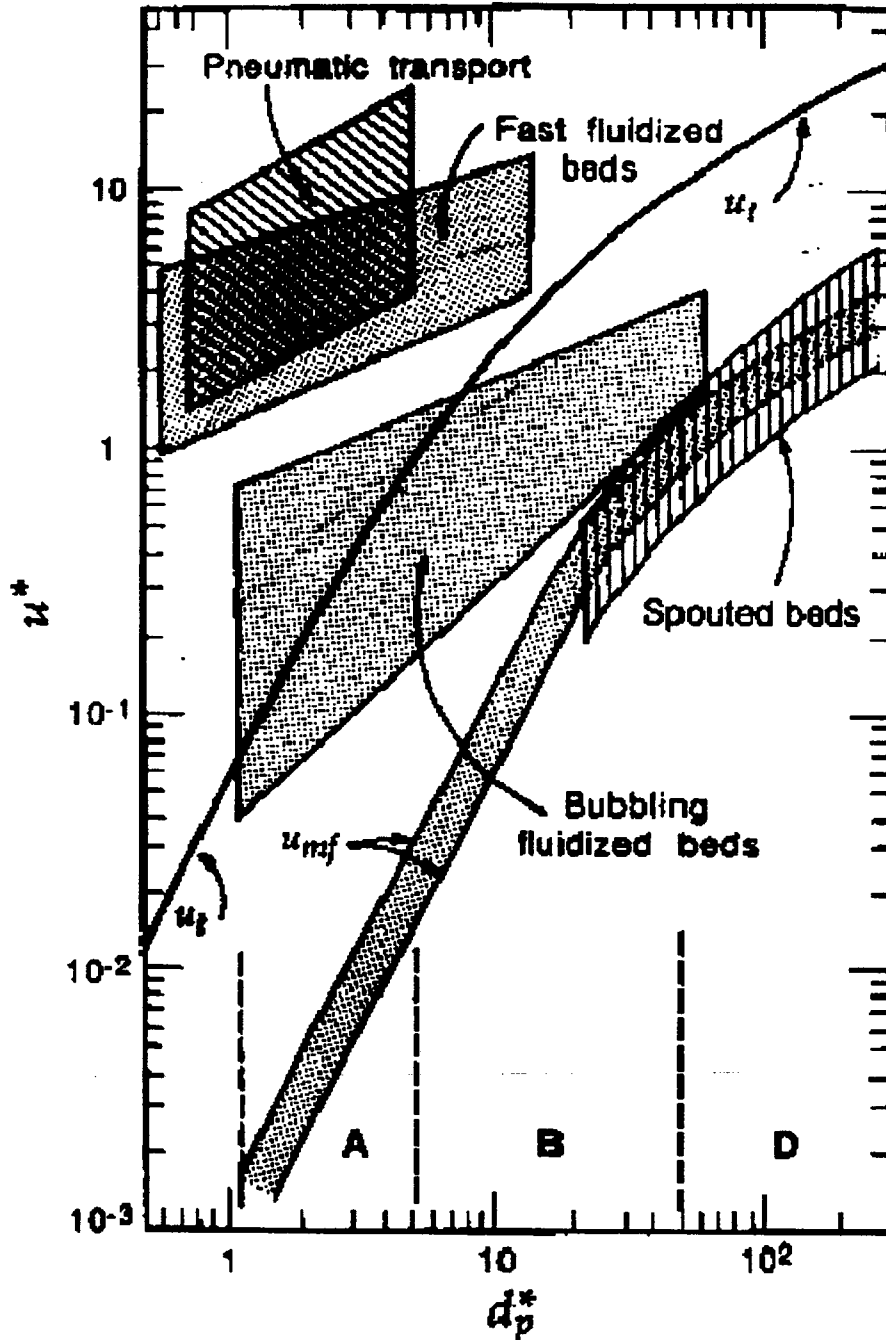

FIGURE 1
- i) A new fluid-bed process is being developed. In order to identify the operating conditions the particle fall velocity, u_t , has to be determined. Use the diagram attached, see Figure 1, to calculate u_t for the following gas-particle system:
Use Figure 1 to check the fluidization regime that corresponds to the calculated superficial gas velocity.